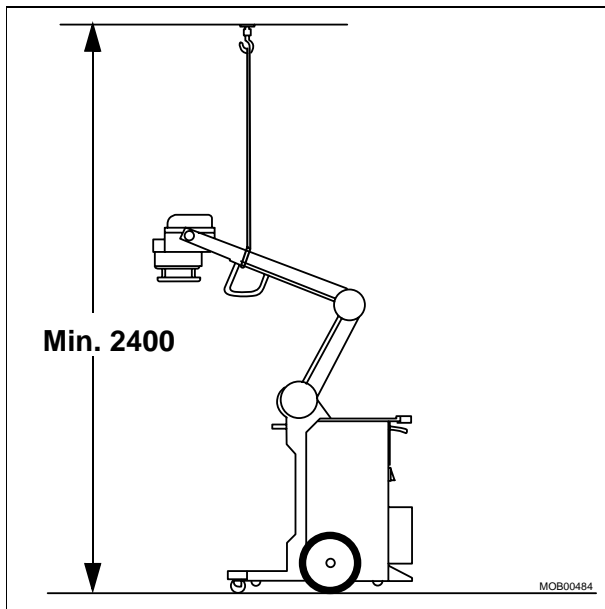

Fig. 10
- Raise the single tank to maximum height and secure it with a ceiling support (Fig. 10).